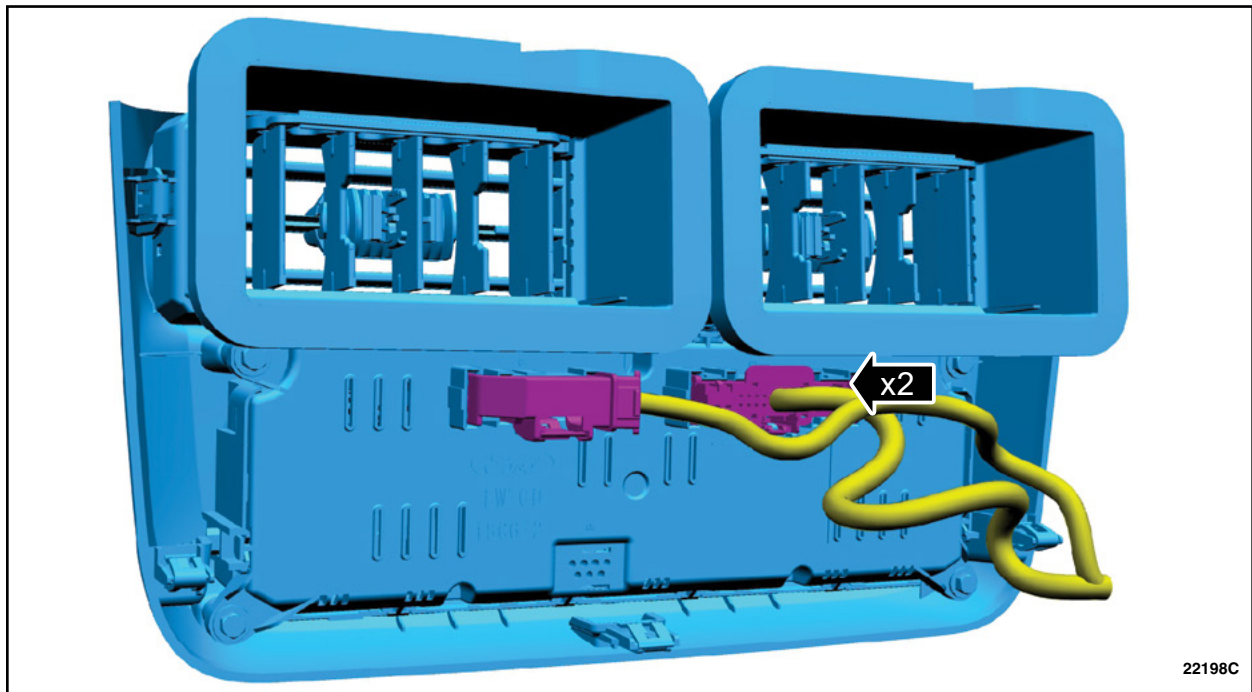

FIGURE 13
11. Connect the electrical connectors and install the center registers and climate controls as an assembly. See Figure 13.